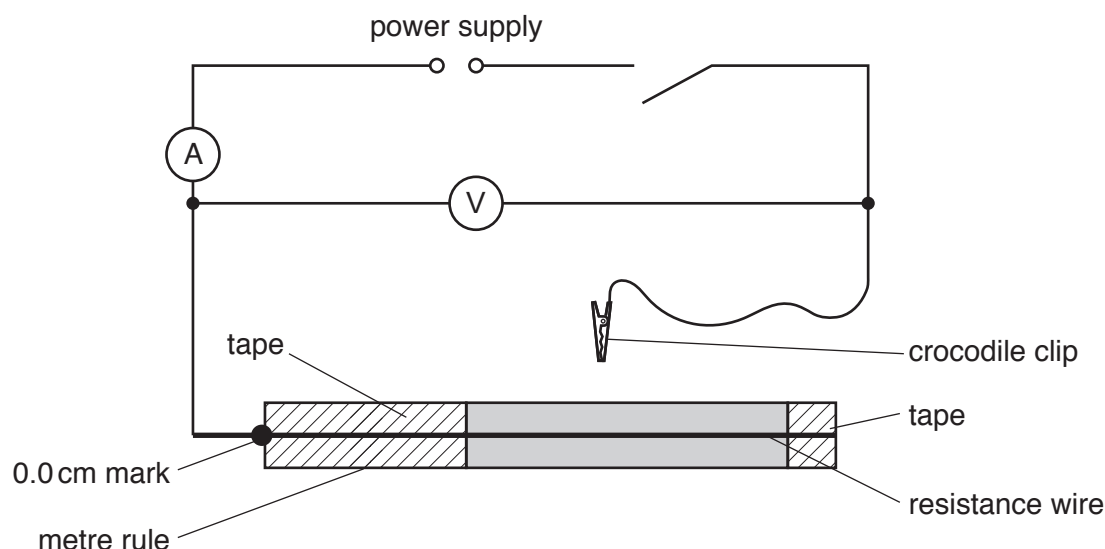

Fig. 3.1
- (vi) Sufficient connecting leads to set up the circuit shown in Fig. 3.1.
- 2. The circuit is to be set up for candidates as shown in Fig. 3.1, with the crocodile clip not connected to the wire.
Ensure that the circuit is connected as shown in Fig. 3.1. Check that the circuit is working. Disconnect the crocodile clip from the resistance wire and ensure that the circuit is switched off.